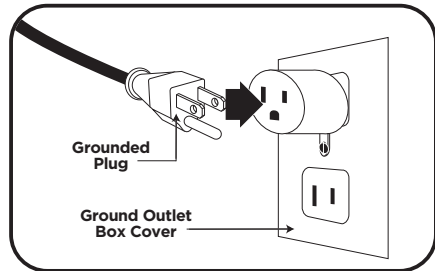

fig. C3 - Grounded Plug Connection
1. Plug temporary adaptor into two-pole outlet. (fig. C3)